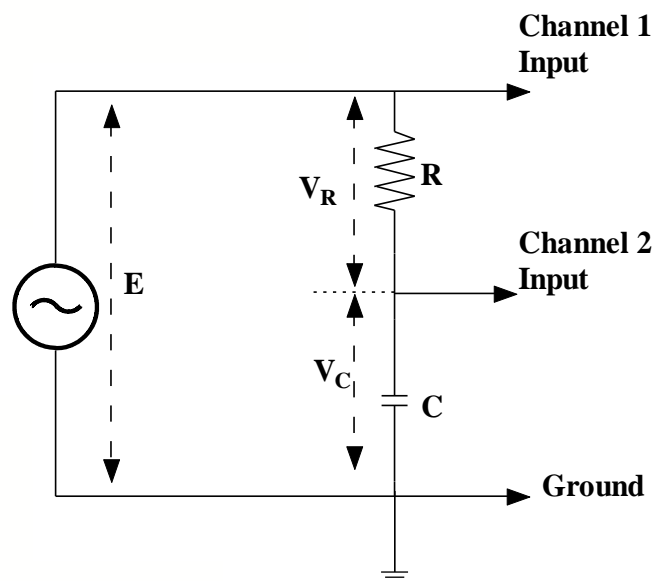

Figure 2
1. Connect the 0.1 pF capacitor and 4.7 k Ω resistor to the signal generator as illustrated in Fig.2.
2. Connect the oscilloscope to monitor the input voltage (E) and capacitor voltage (V_C). The two ground terminals of the oscilloscope input should be connected to the lower terminal of the capacitor in the circuit diagram; that is, to the capacitor terminal connected to the signal generator.